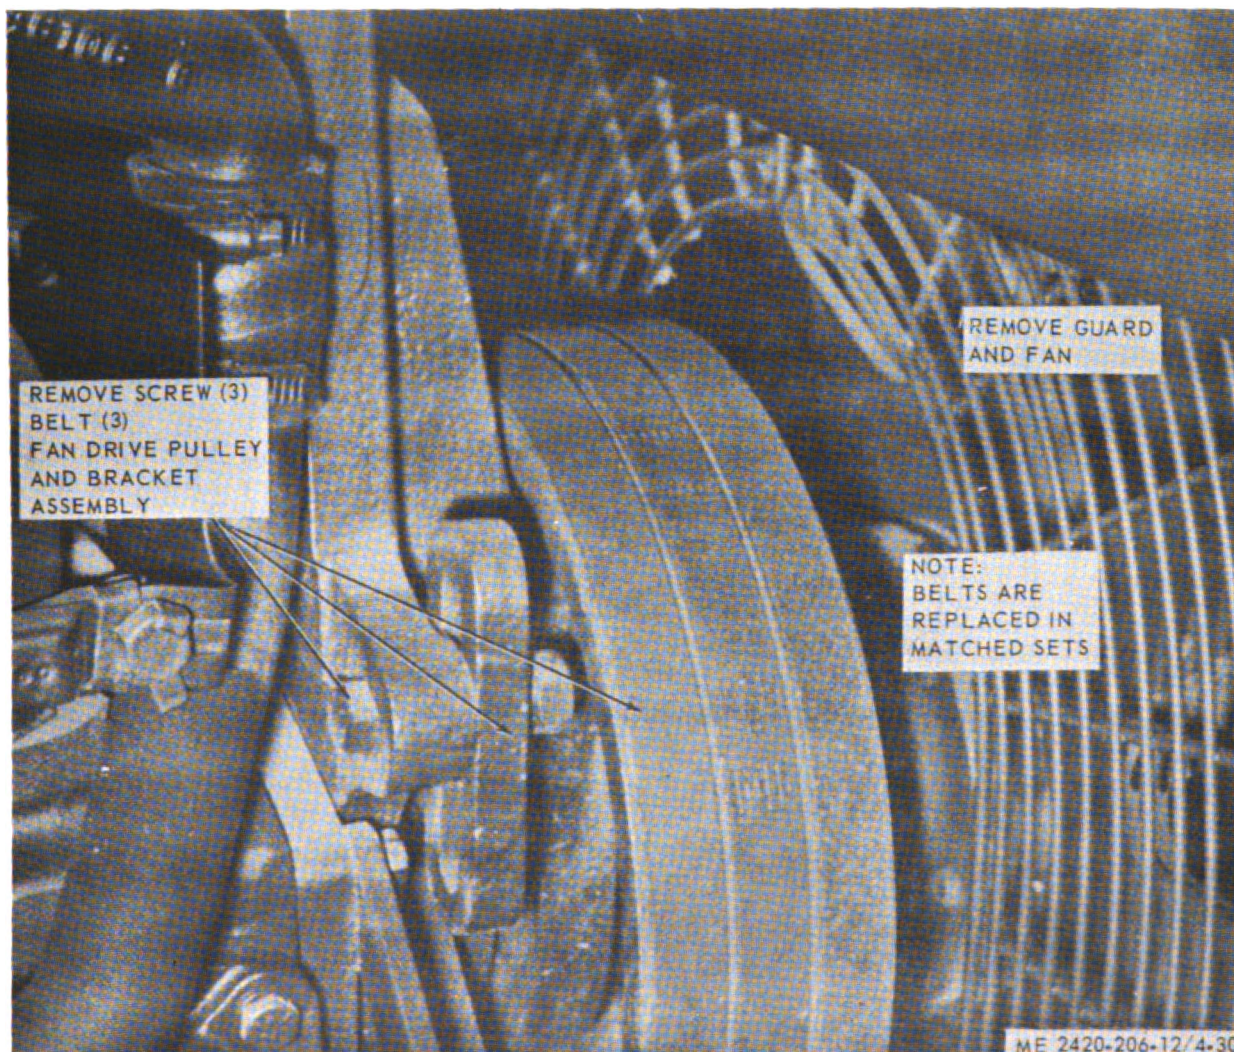

Figure 4-30. Fan drive pulley and belts, removal and installation.
a. Removal. Remove fan drive pulley and belts as illustrated in figure 4-30. Remove hood (fig 4-13) and upper radiator hose.
(1) Clean metal parts and dry thoroughly. Clean belts with a cloth.
(2) Inspect all parts for cracks, breaks and other damage. Replace defective parts as necessary. Replace belts in matched sets. Replace fan spacer
c. Installation. Install fan drive pulley and belts as illustrated in figure 4-30.